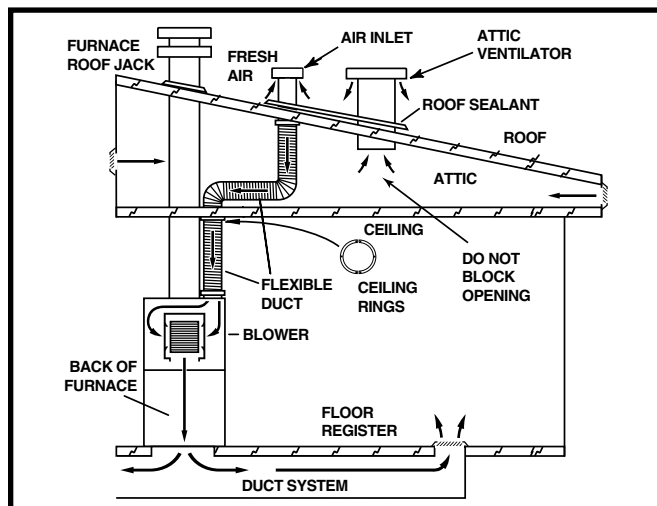

Figure 6. General Install Setup
6. Route flexible duct through ceiling hole between the roof opening and the furnace area. See Figure 6 (page 4).